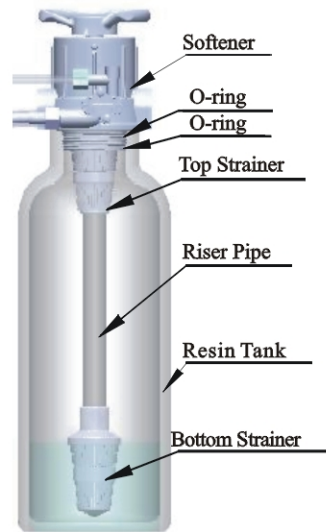

Figure 1-1
- a. As the Figure 1-1 shows, select the riser pipe whose size measures up to specific standard. Glue the riser pipe to the bottom strainer and put it into the mineral tank. Cut off the exceeding tube out of tank top opening. Plug the riser tube in case of mineral entering.